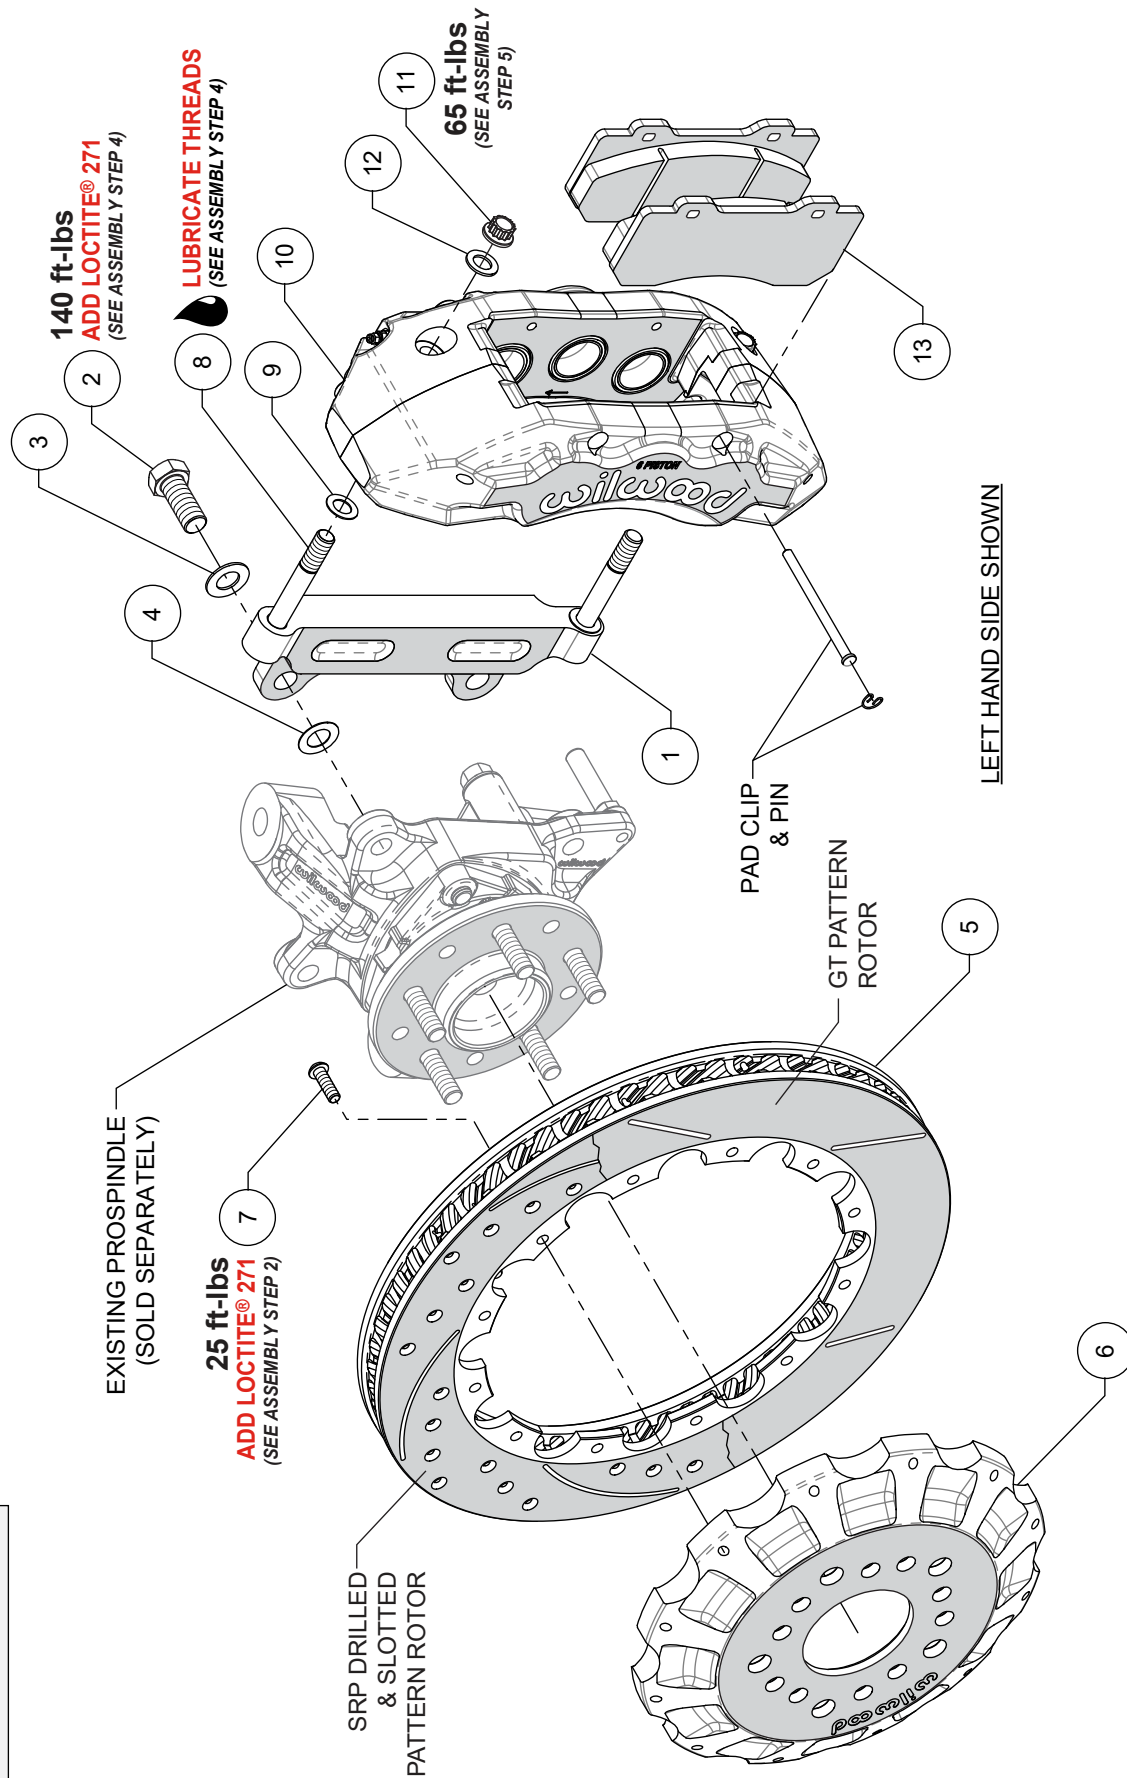

Figure 1. Typical Installation Configuration
Numbers in parenthesis refer to the parts list and Figure 1 on the preceding pages.
STEP 1 The caliper mount bracket (1) should initially be installed with clean, dry threads on the mounting bolts. Orient the bracket as shown in Figure 1 and Photo 1, and install using bolts (2) and washers (3). Initially place one .024" thick shim (4) on each bolt between the bracket and upright as shown in Figure 1 and Photo 2. Temporarily tighten the mounting bolts. **NOTE:** *The bracket must fit squarely against the mount bosses on the upright.* Inspect for interference from casting irregularities, machining ridges, burrs, etc. Later, after the caliper alignment has been checked, the mount bolts will be secured using red *Loctite*® 271.
STEP 2 Orient the rotor (5) and the hat (6) as shown in Figure 1 and Photo 3. Attach rotor to hat using bolts (7). Using an alternating sequence, apply red *Loctite*® 271 to the threads, and torque to value shown in Figure 1.
STEP 3 Slide the rotor/hat (5/6) onto the hub. **NOTE:** *The hat must fit flush against the hub flange or excessive rotor run out may result.* Install three lug nuts to keep the rotor in place while continuing with the installation, Figure 1 and Photo 4.
STEP 4 Lubricate the caliper mounting studs (8) with lightweight oil. Initially place one .032" thick shim (9) on each stud between the caliper and the bracket, as shown in Figure 1 and Photo 5. Mount the caliper (10) onto the bracket (1) using lock nuts (11) and washers (12), Figure 1. Temporarily tighten the lock nuts. The rotor should be centered in the caliper, Photo 6. If not, adjust by adding or subtracting shims (4) between the bracket and the upright. Always use the same amount of shims on each of the two mounting bolts. Once the caliper alignment is correct, remove the bracket mounting bolts (2) one at a time, apply red *Loctite*® 271 to the threads, and torque to value shown in Figure 1.
STEP 5 Remove the two pad retaining pins from the caliper by carefully popping out the pin retaining clips and sliding out the pins. Insert the brake pads (13) into the caliper, with the friction material facing the rotor, as shown in Photo 7 and secure the brake pads in place with the pad retaining pins and clips. Check that the top of the brake pad is flush with the outside diameter of the rotor, Photo 8. If not, adjust by adding or subtracting shims (9) between the caliper and the bracket. After the caliper pad height is set, torque the caliper lock nuts (11) to value shown in Figure 1.